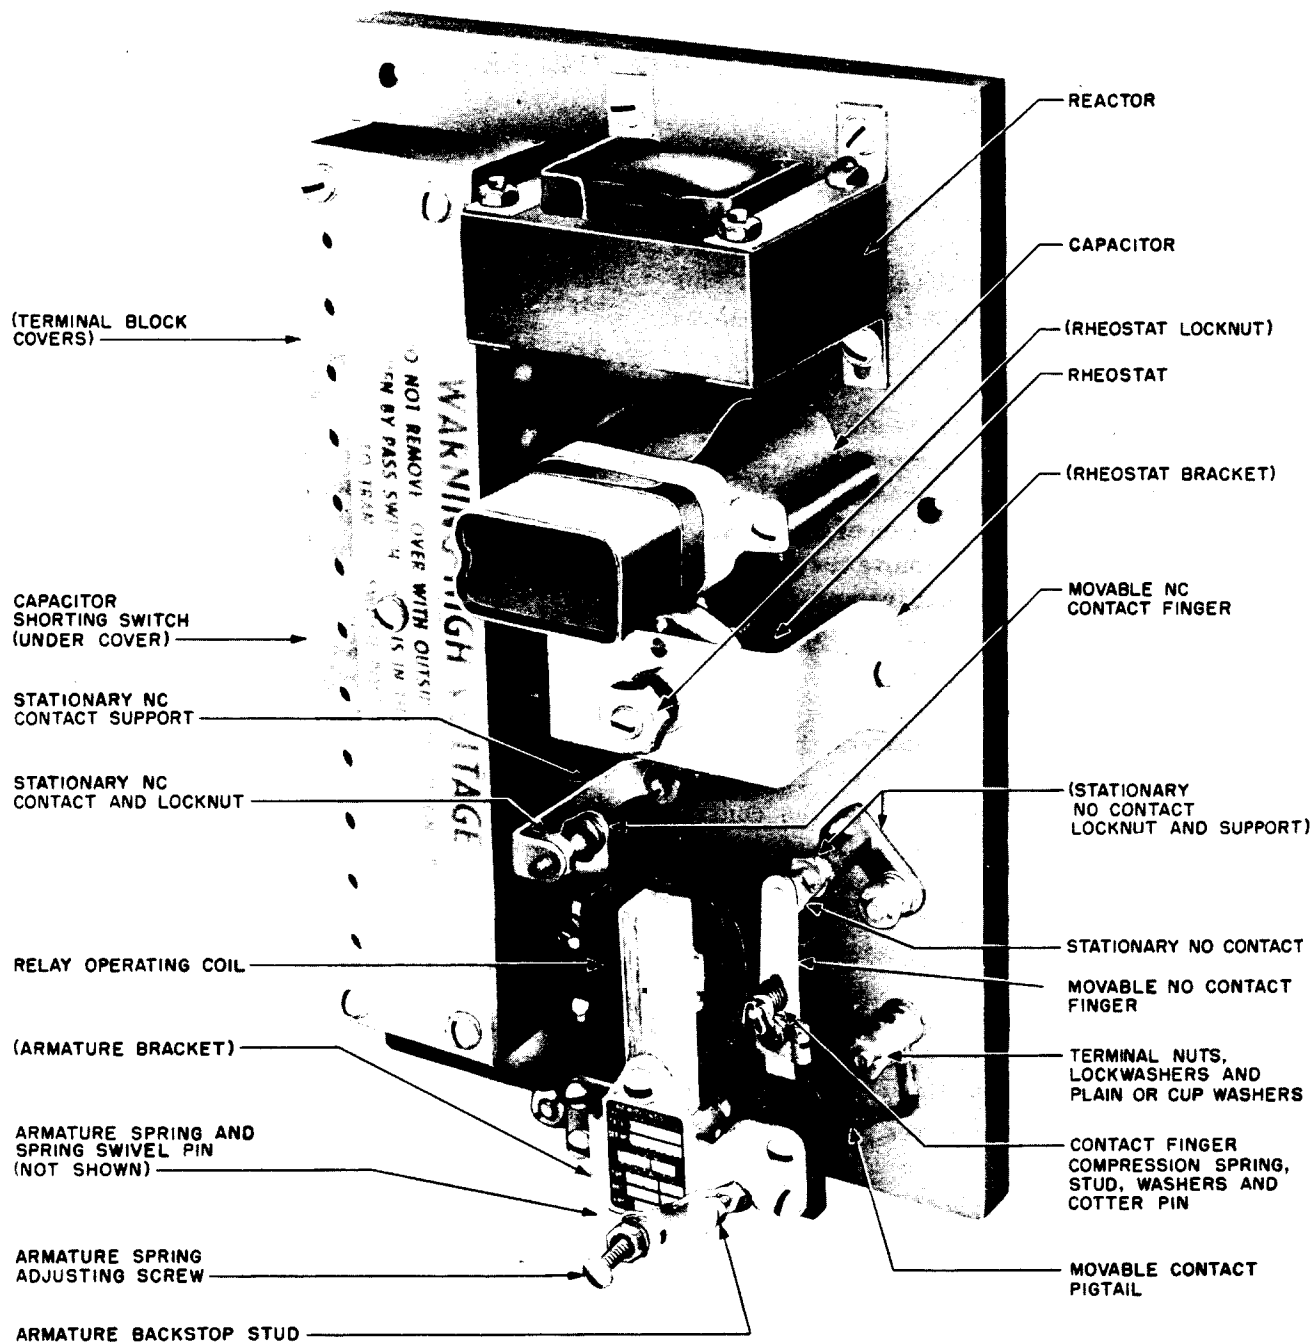

Fig. 1 - KS-15519 Relay
1.02 This section is reissued to add information on replacing pigtails associated with movable contacts; to remove the procedure for maintaining service; to add a definition of information enclosed in parentheses; to remove the procedure for replacing the relay armature and frame assembly; and to revise Fig. 1 and the list of tools and materials.